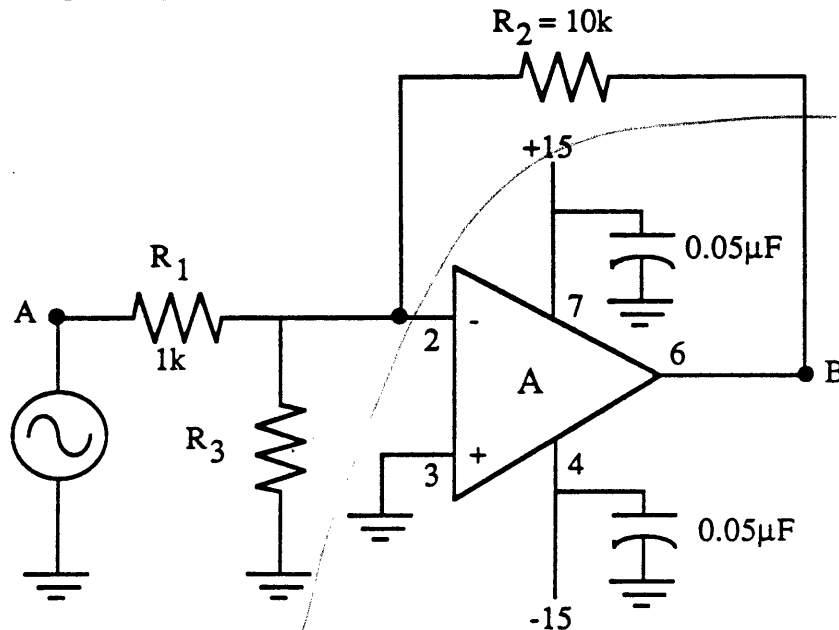

Figure 3 - Inverting Amplifier
- (1) Build the circuit shown in Fig.3, making $R_3=10\Omega$.
- (2) Set the signal generator to a 1 V_{p-p} sine wave at 100 Hz.
- (3) Measure the signal amplitudes (peak-peak) at points A and B.
- (4) Increase the signal generator frequency and record in Table 6.8 the frequency for which the signal amplitude at B falls to 0.7 V_{p-p}. *ie -3db compared to the voltage at B at 1 kHz*
- (5) Repeat steps 2 to 4 for R_3 equal to 100 Ω , 1K, and an open circuit.
- (1) Replace the LM741 in your circuit of Figure 3. To measure the input offset voltage V_{OS} disconnect the signal generator from your previous circuit. You may also remove R_1 . Change R_2 to 100k and R_3 to 100 Ω . This results in a very high gain ($\times 1000$) amplifier which will allow us to see the input offset voltage.
- (2) Measure the dc output voltage (at point B) with your DMM and record your results in Table 6.9. Even though the input voltage to the op-amp is zero your
- ★ 6. (a) Prove that for any value of R_3 , the THEORETICAL overall gain (B/A) of the circuit shown in Figure 3 is $-R_3/R_1$.